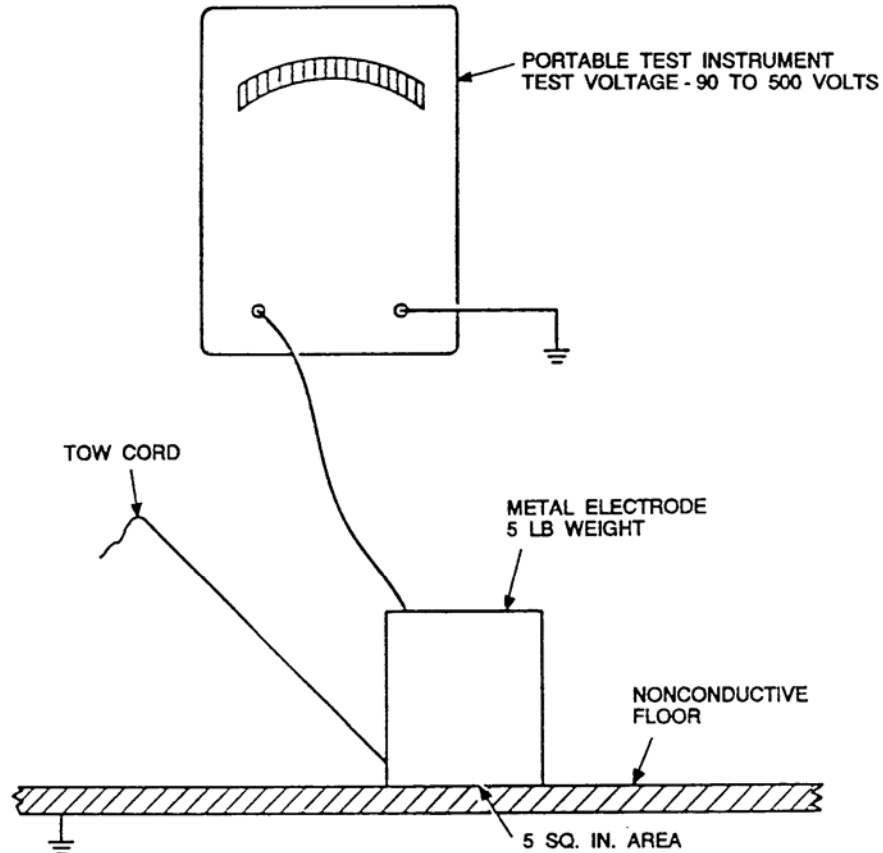

Figure T-1. Testing Insulating Floors
k. Where dangerous voltages exist, flooring and work surfaces will be of non-conductive material meeting the requirements of MIL-M-15562 (i.e., safety rubber or vinyl matting). See GSA Supply Catalog, Industrial Products, for types, sizes, colors, etc., which are available. Nonconductive safety shoes may be provided as an additional safety measure. (Safety shoes will be tested before being issued to be sure they are nonconductive.) The minimum allowable resistance under maximum working voltage for a given area will be not less than 1 megohm per kilovolt when tested in accordance with procedures of (1) and (2) below. Where the minimum resistance level is not reached, additional insulation (rubber mats, wooden platforms, etc.) will be provided to sufficiently increase the actual resistance to the above acceptable level.
(1) Initial tests (Figure T-1) shall be made of all nonconductive floorings and work surfaces for the minimum allowable resistance as specified above. Subsequent tests shall be made at least annually. Coordination with the facility engineer may be required during testing. Records will be prepared, identifying pertinent data and corrective actions taken, to assure the adequacy of flooring and work surfaces. This record will be kept on file locally for at least 2 years and then destroyed.
(2) For the purpose of this bulletin, the term nonconductive is used to define the ability of a material to withstand a voltage potential with little or no current flow through the material to be tested. A high resistance measurement instrument (ZM-21/U Megger, or equivalent) with a minimum output of 500 volts shall be used. One electrode of the measurement instrument should be firmly connected to a 5-pound metal block, which has a contact surface of 5 square inches of good conducting material. The block should be equipped with a nonconductive strap to pull it along the surface under test. The entire surface of the nonconductive floorings, or work surfaces, shall be tested to determine the points of lowest resistance to assure compliance with these requirements.